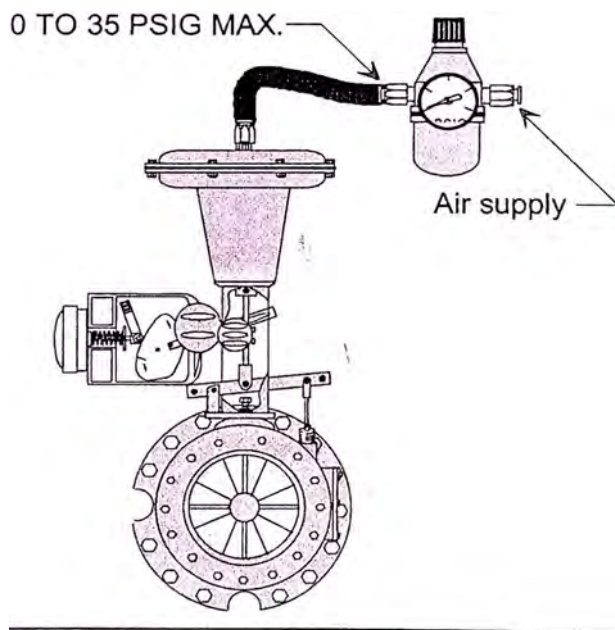
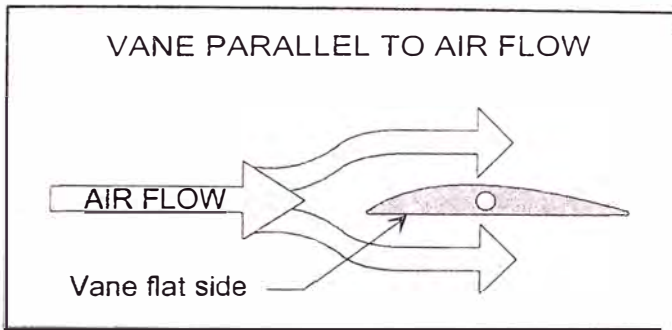

Figure 2-4. IGV calibration test set up
Figure 2-5. Vane parallel to air flow
The procedures for calibrating and stroking require that an external source of air be connected directly to the actuator through a controllable regulator. Figure 2-4 illustrates the external air connection.
- A. Attach an air regulator directly to the actuator as in Figure 2-4. **Do not exceed 35 psi max. on the actuator.** Slowly increase pressure to the actuator while observing the IGV vanes and the vane indicator. Continue to open the IGV vanes until the flat side of the vanes are parallel to the air flow. Figure 2-5 illustrates what a vane looks like when it is parallel to the air flow. **DO NOT EXTEND THE VANES BEYOND -10° .**
1. At the completion of this procedure the positioner will be properly aligned with the stem to accept full travel and align the positioner for completing the zero and span calibration. The externally supplied air to the actuator is used in this procedure. Set up a regulator as in Figure 2-4 with zero PSIG to the actuator.